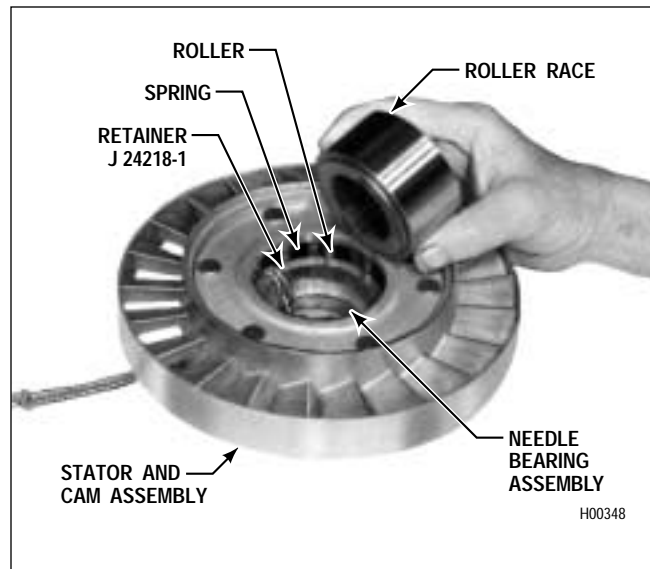

Figure 6-11. Installing Freewheel Roller Race (AT 543)
(5) Place the stator and bearing assembly on the work table with the bearing side down (Figure 6-11). Cover the bottoms of the stator cam pockets with oil-soluble grease. Install collapsible retainer J 24218-1 with cord attached as shown in Figure 6-11.
(7) Install the freewheel roller race, in the position shown in Figure 6-11, until the race engages the rollers. Rotate the race in a clockwise direction while pressing downward until the race touches the collapsible retainer. Lift up on the stator assembly and pull on the cord to remove the retainer. Continue rotating the race while pressing downward. When the race is fully seated, rotate it firmly in the opposite direction to lock the stator and cam assembly.